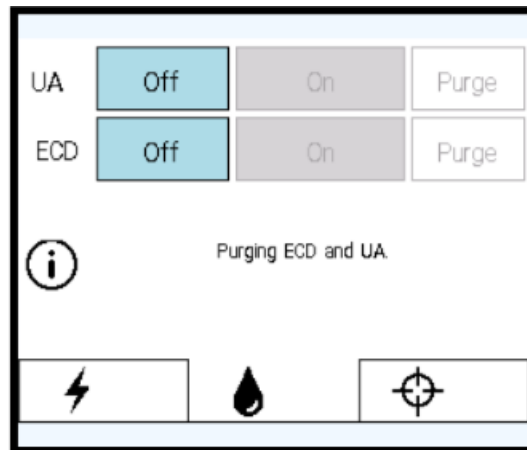

Figure 11: PSIB Display - Fluid Circuit tab
5. On the PSIB display, choose the **Fluid Circuit** tab  (Figure 11) and **Purge** the UA and ECD fluid circuits. You can also do this from the TDC by pressing **PURGE** beside the fluid circuit (FC) quadrant (Figure 12).